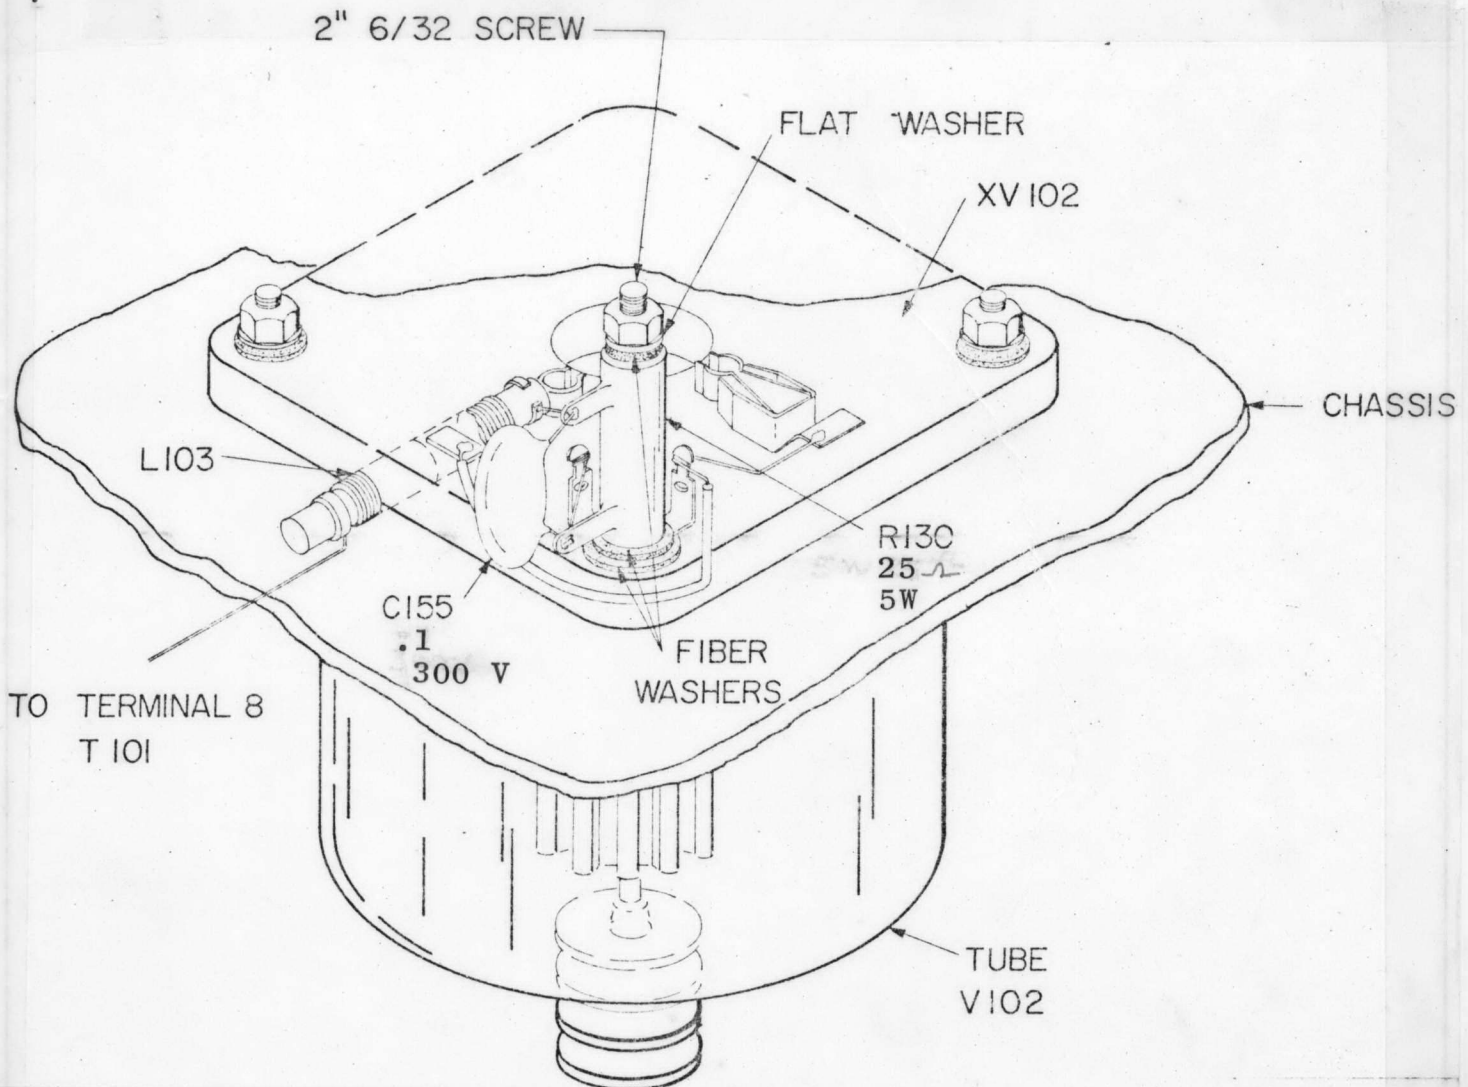

FIG. 2
2. Mount R130 (Item 1) on the bottom of XV102 as shown in mounting Figure 2 using the 2" - 6/32 screw (Item 10), 2 fiber washers (Item 15), one flat washer (Item 11) and one lock washer (Item 14).